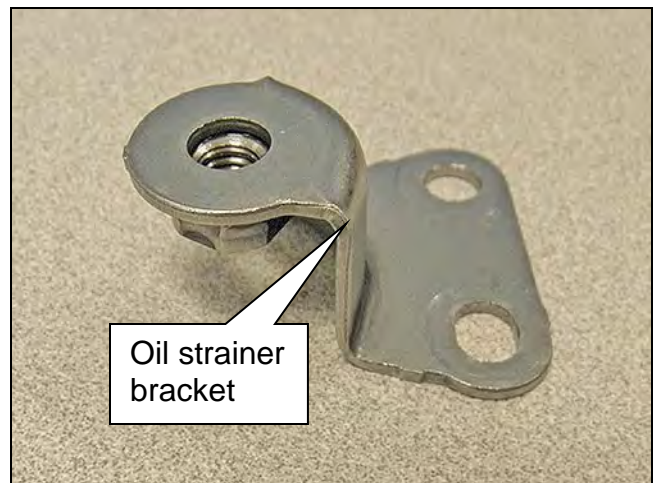

Figure 1A
**NOTE:** If an oil strainer bracket was removed, discard it. An oil strainer bracket (Figure 1A) will not be used with the new oil strainer.